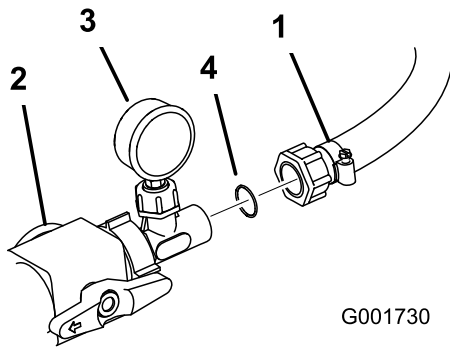

Figure 17
18. Install a plastic O-ring between the pressure gauge assembly and hose leading to the reel assembly. Connect the hose to the assembly (Figure 17). Tighten